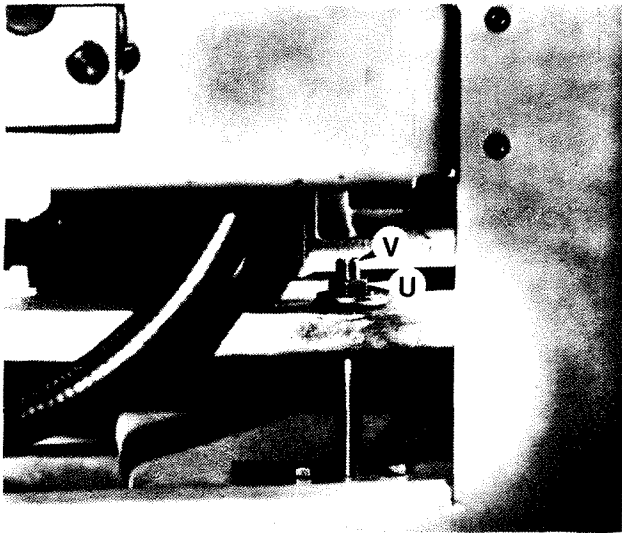

Figure 4.8 - Drive Belt Adjusting Screw
10. Remove lock nut "U", Figure 4.8 .
22. Remove the block and rotate adjusting screw "V", Figure 4.8, to lower the front of the motor mounting plate until proper belt tension is attained.